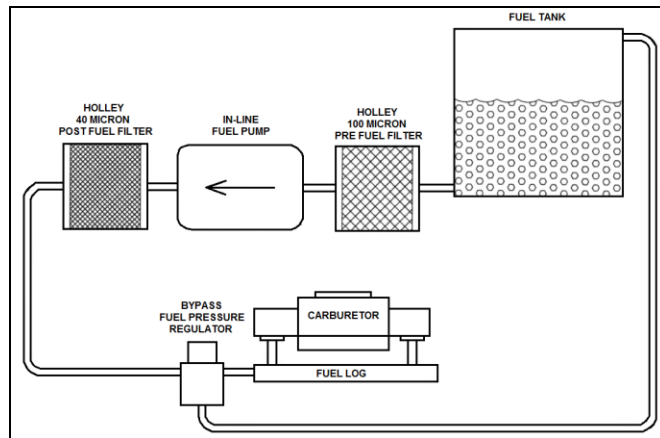

Figure 2
3. The 12-803BP bypass regulator has one bypass or return port. This port (labeled "RET") must be connected to the storage tank with a fuel line the same size as the supply line (3/8" I.D. is recommended). See Figures 2 & 3.
5. Connect the other line per Figure 2 or 3.